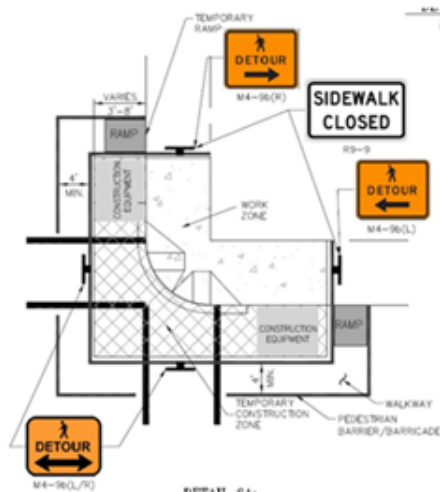

Figure 5.1a
- H. Work at intersection corners such as sidewalk and curb ramp improvements can use the parking strip and temporary crosswalks as shown in figures 5.1a and 5.1b.